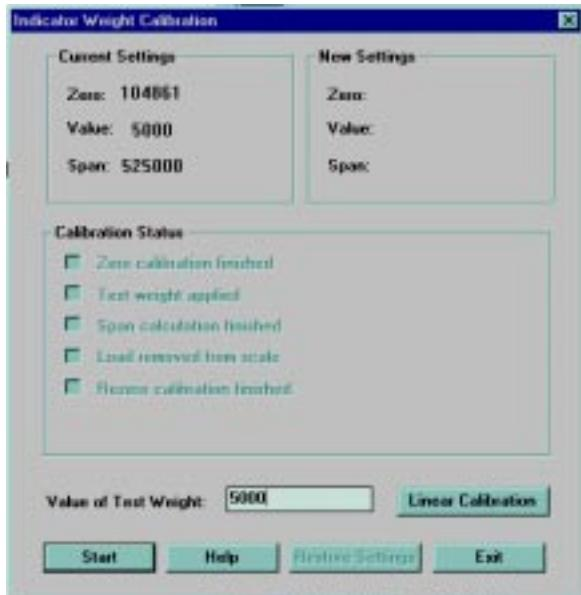

Figure 4-2. Revolution Calibration Display
3. Revolution uploads calibration data from the indicator then presents the information in a display like that shown in Figure 4-2.